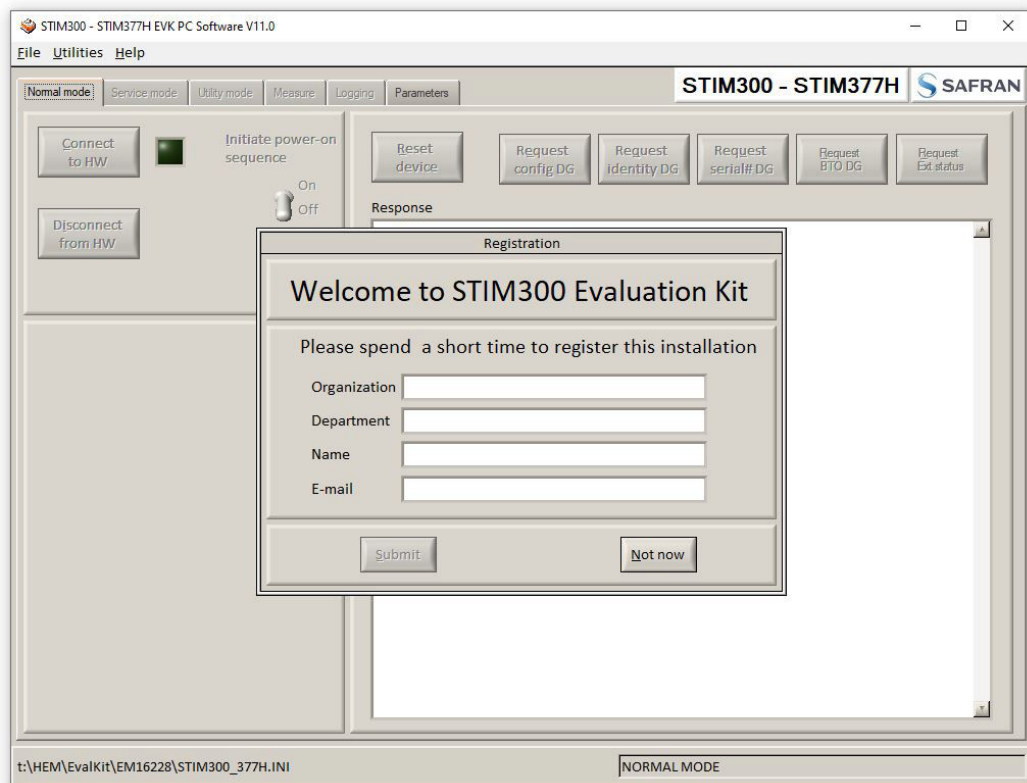

Figure 17: Welcome message and software registration
10. A green LED (Data arriving from device n) indicates that data is received from the gyro module(s). Verify the communication to module by clicking on the 'Request serial# DG' button. An example of such a result is shown in Figure 17. The system is now ready for use.